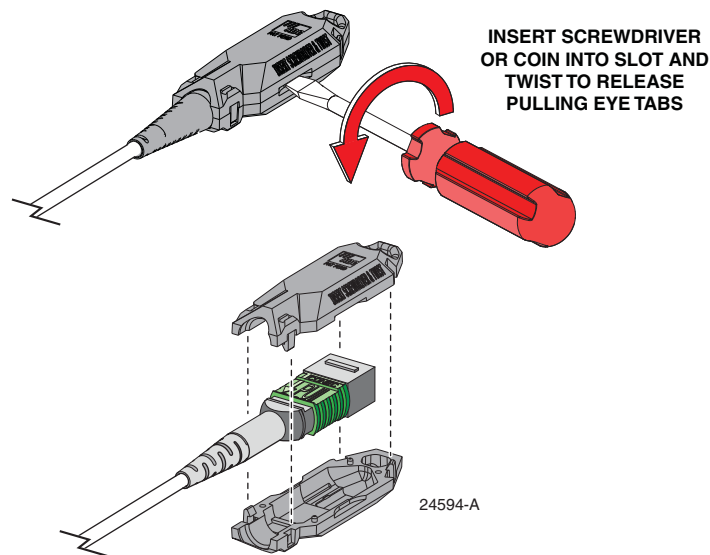

Figure 41. Removing a Pulling Eye
- a. Remove the pulling eye from each MPO connector by inserting and twisting a screwdriver or coin as shown in Figure 41.
- a. Remove the pulling eye from each MPO connector by inserting and twisting a screwdriver or coin as shown in Figure 41 on Page 34.